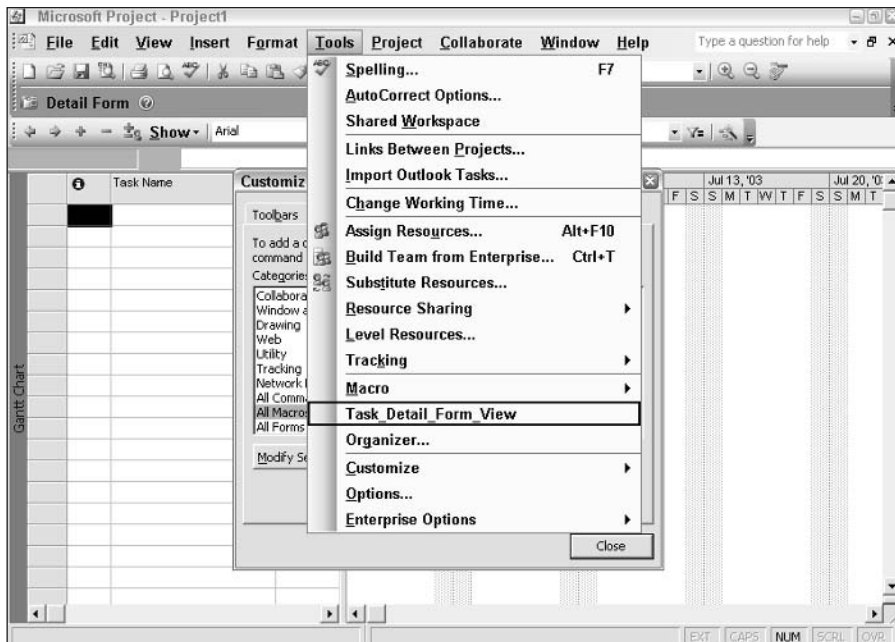

Figure 24-13: A macro has been placed on the Tools menu.
5. Release the mouse button. The macro appears on the menu, as shown in Figure 24-13.